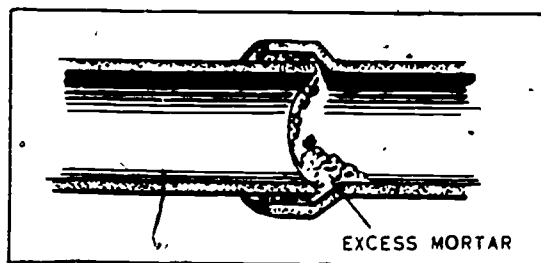
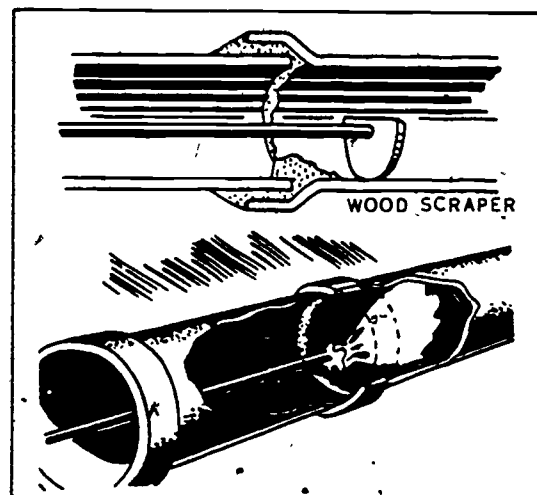

Figure 1-15 Joint made without oakum
Figure 1-16 Removing excess mortar
**Making joints.** Concrete or tile sewer line joints, used either for sanitary or storm sewers, are sealed with either oakum and mortar or oakum and hot bituminous compound. Before you make a joint, see that the spigot end of the tile is centered in the hub of the joining pipe. A joint that is not centered tends to leak on the side that has the least space. First, pack the oakum into the hub with sufficient pressure to tamp it, but do not exert too much pressure because you may break the hub of the pipe. Next, mix a sufficient amount of mortar, pack it into the bottom of the hub, and continue up the sides and over the top. Apply enough mortar to insure a watertight seal and shape it to make a neat appearing job. See the diagram of a pipe joint made without using oakum in figure 1-15. Note the buildup of mortar inside the pipe. Excess mortar within a pipe is undesirable because it restricts the flow of sewage. To remove the mortar, use either a wood scraper or a swab, as shown in figure 1-16. Remove the excess mortar as soon as you complete the particular joint. Your mortar mix should consist of one part cement to two parts sand.